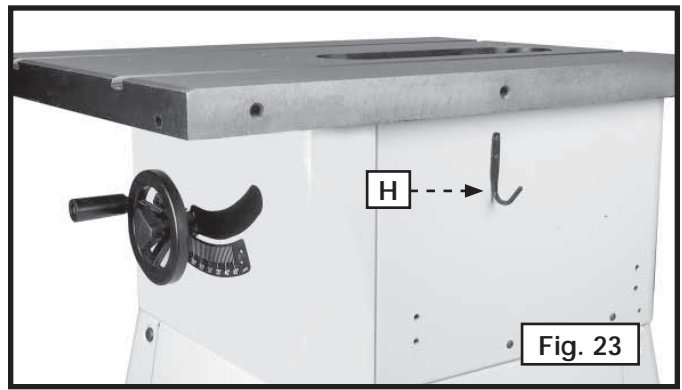

Fig. 23
A hook (H) Fig. 23 for blade wrench storage can be installed in two holes on the side of the saw using two M4x8mm Pan Head Cap Screws.